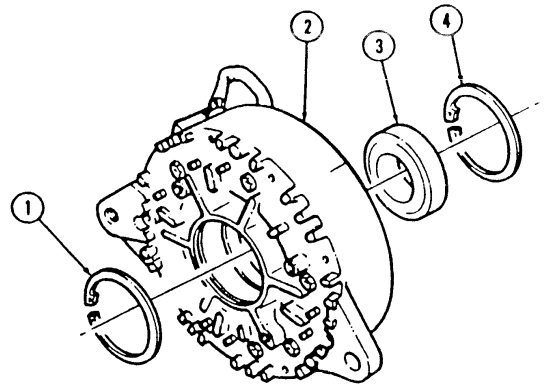
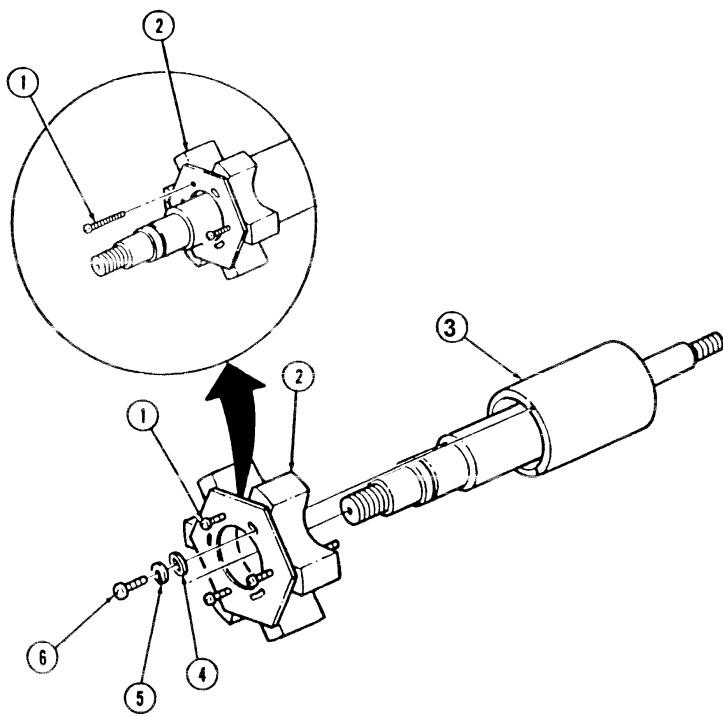

FIGURE 3-53
FIGURE 3-54
- (1) Install front rotor assembly (2) on core and shaft assembly (3). (see figure 3-54)
- (2) Apply NSN 8030-00-111-2762 sealing compound to three screws (6).
- (3) Align slots in front rotor assembly (2) to mount holes on core and shaft assembly (3) and secure with three screws (6), lockwashers (5), and washers (4). Tighten screws (6) to 45 lb-in (5 N●m).
- (4) Coat outer race of front bearing (3) with a thin coat of NSN 8030-00-111-2762 sealing compound. (see figure 3-53)
- (5) Use a press to install front bearing (3) in front housing assembly (2).
- (6) Install front (1) and rear (4) retaining rings in front housing assembly (2).